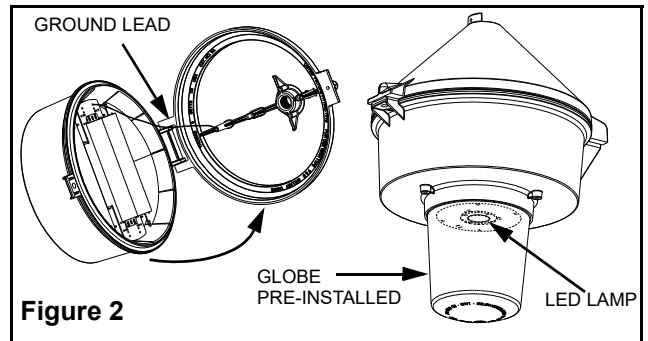

Figure 2
4. Hang the tank assembly on the mount hinge (Figure 2).